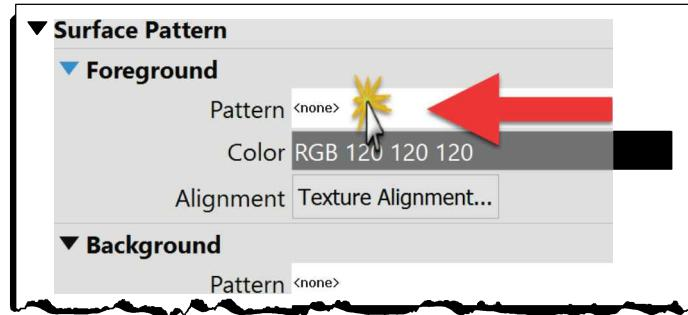

FIGURE 17-4.9 Setting surface pattern
19. Click the **Foreground Surface Pattern** preview area (currently set to “none”); see Figure 17-4.9.